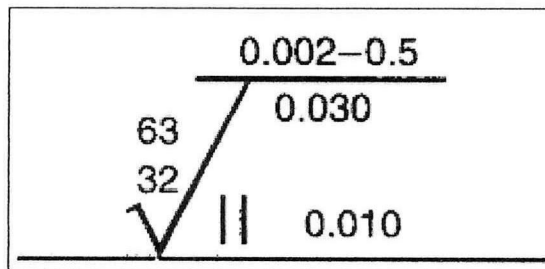

Figure Q3: Surface texture symbols in engineering drawing.
- Q3** (a) Explain the **TWO (2)** importance of annealing. (4 marks)
- (c) List **FOUR (4)** examples of chemical surface cleaning operation. (4 marks)
- (d) **Figure Q3** shows the surface texture symbols in engineering drawing.